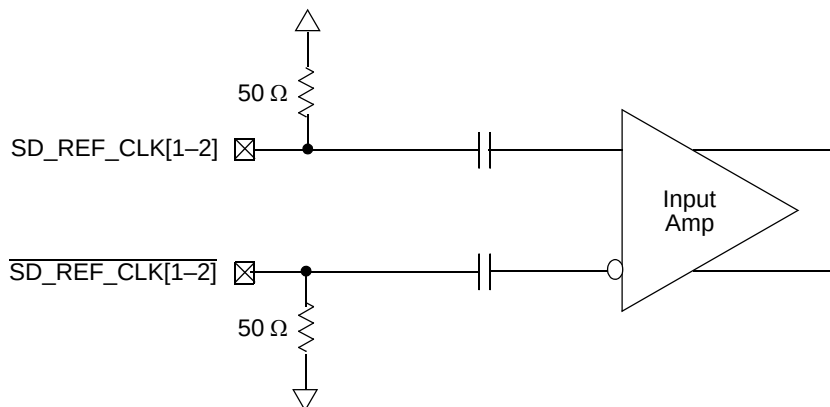

Figure 4. Receiver of SerDes Reference Clocks
The SerDes reference clock inputs are applied to an internal PLL whose output creates the clock used by the corresponding SerDes lanes. The SerDes reference clock inputs are SD_REF_CLK1/SD_REF_CLK1 or SD_REF_CLK2/SD_REF_CLK2. Figure 4 shows a receiver reference diagram of the SerDes reference clocks.
- The SD_REF_CLK[1-2] and $\overline{SD_REF_CLK[1-2]}$ are internally AC-coupled differential inputs as shown in Figure 4. Each differential clock input (SD_REF_CLK[1-2] or $\overline{SD_REF_CLK[1-2]}$) has on-chip 50-Ω termination to SXCvss followed by on-chip AC-coupling.